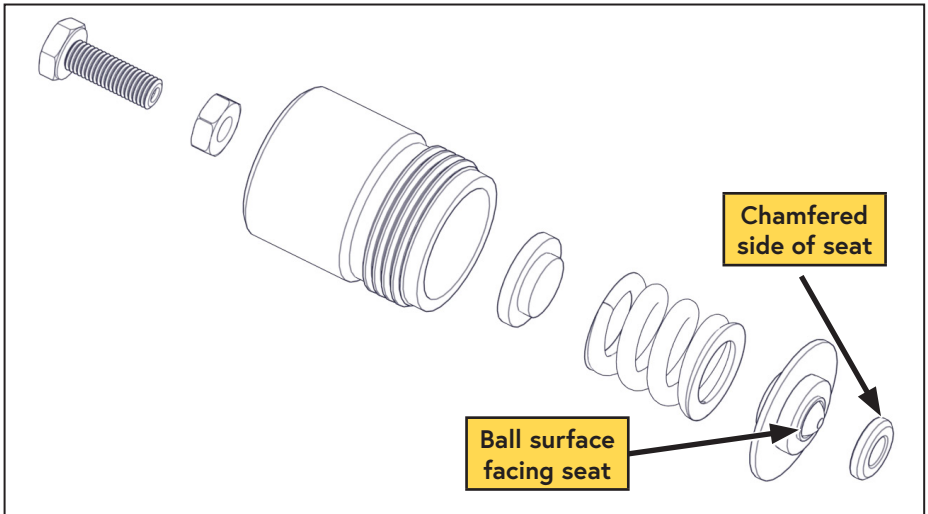

Figure 2 — Regulator assembly (P/N: A700137)
6. If the seat is being replaced, apply just enough general purpose grease to the chamfered side of the seat to hold it in place during the install. Install the new seat with the chamfered edge of the seat facing into the Inlet and away from the regulator cover (Figure 2).
8. Install the rubber diaphragm into the Inlet with the ball surface of the diaphragm facing the seat (Figure 2).
10. Install the brass spring seat boss into the spring, the ball surface should face the regulator cover and setting bolt (Figure 2).